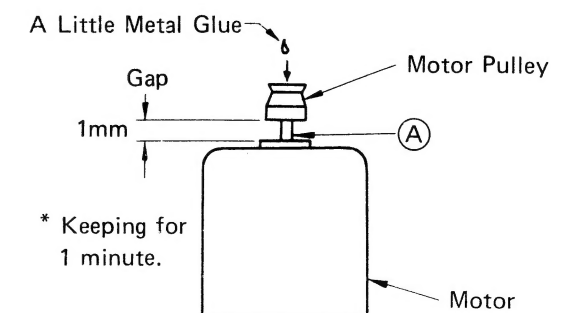

Figure 26.
- (1) Maintain a gap (1mm) between motor and motor pulley as shown in Fig. 26 and apply a little metal glue, LOCTITE 601 (22964085) from the top of the motor pulley.
- (2) Spread the glue between them by reciprocating the pulley and then fix it while keeping the adequate gap for one minute.
Caution: Do not put glue around part A in Fig. 26.